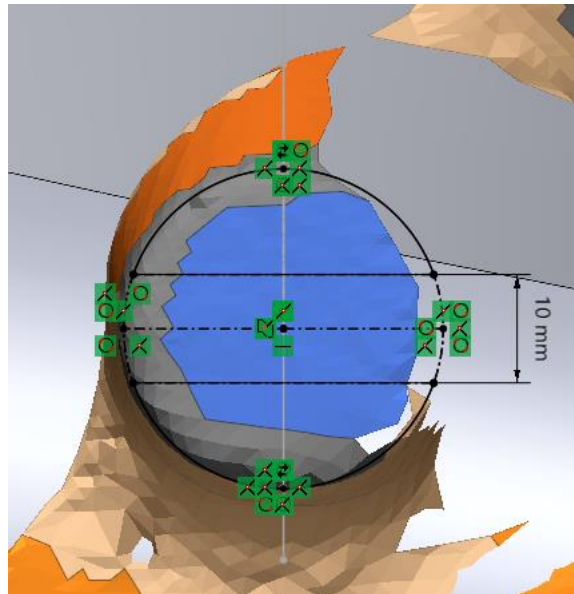

Figure 503
- Accept the sketch when it looks similar to **Figure 503**.